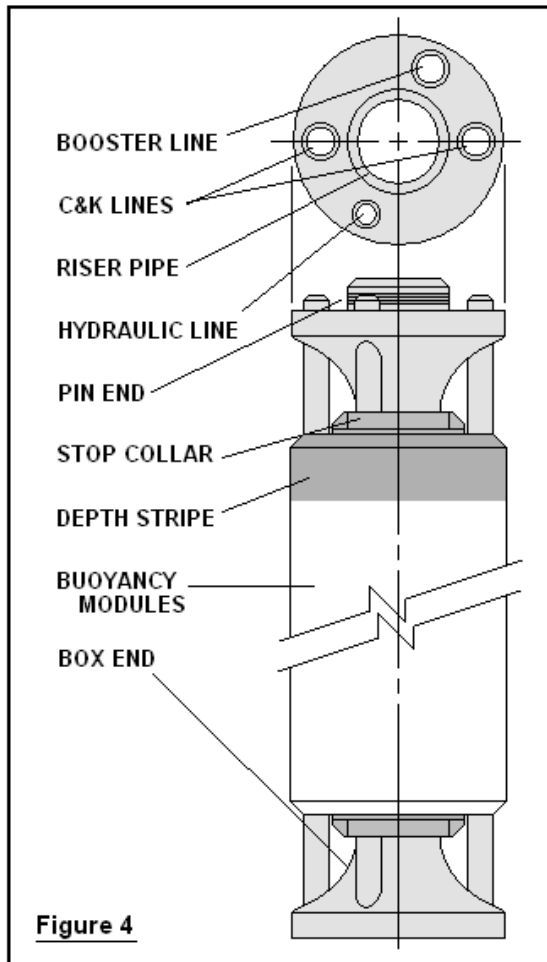

Figure 4
8.0 Arranged around the outside of the main riser tube are several other pipelines with specialized functions. Two *choke & kill lines* carry mud down to the wellhead for the purpose of controlling internal pressures. Heavier mud can be circulated in quickly if it becomes necessary to “choke” or “kill” the well. *Auxiliary lines* include hydraulic lines and booster lines. Hydraulic lines convey high pressure fluid to actuate the BOP (Blowout Preventer) stack, the complex tower of valves sitting atop the wellhead. Booster lines augment the flow of mud down into the well. Multiplex (MUX) cables serve the BOP electrical control system. This multitude of pipes and lines is attached to the riser by sturdy clamps that hold them in place as they are pressurized. See **Figure 4**.